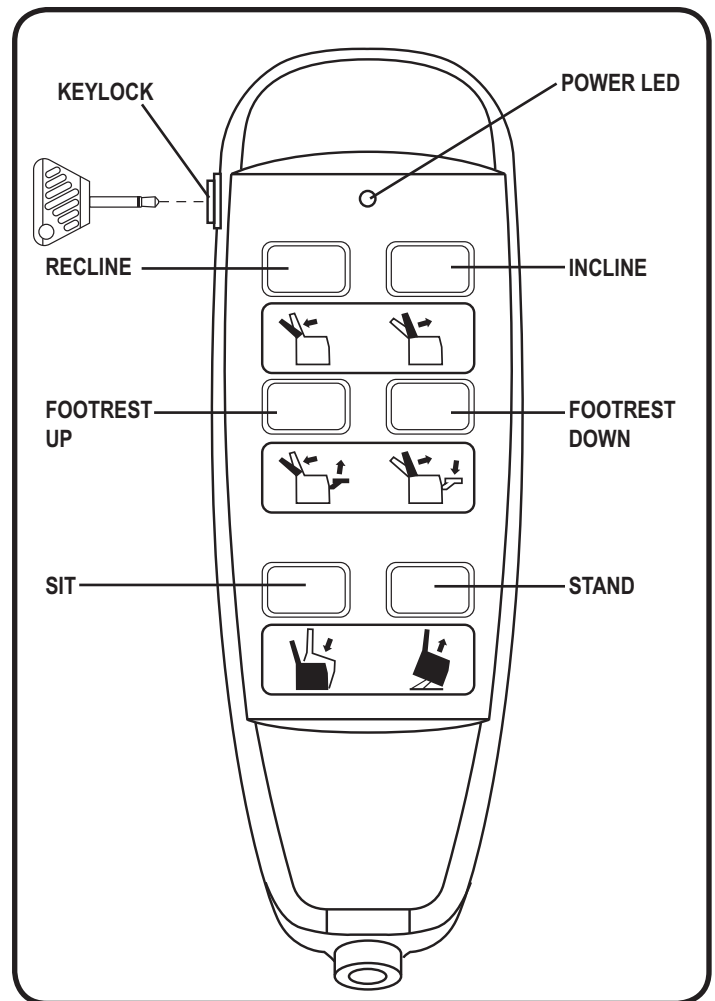

Figure 5.1 Hand Control
1. Press the FOOTREST UP button on the hand control until the footrest is sufficiently elevated from the ground (**Fig. 5.1**).
3. Press the FOOTREST DOWN button on the hand control until the power lift recliner is in an upright, seated position (**Fig. 5.1**).
5. Press the INCLINE button and elevate the power lift recliner to its highest position (**Fig. 5.1**). Plug the chair-back motor cable (labeled with a green-A tag) into the green-A slot of the controller box. Plug the chair base motor cable (labeled with a yellow-B tag) into the yellow-B slot of the controller box. The controller box is located underneath the power lift recliner.
6. Press the RECLINE button and return the chair to the upright, seated position before use (**Fig. 5.1**). Zip the chair-back fabric to the chair base.
The hand control is equipped with buttons that control the movement of the chair-back, chair base and footrest (**Fig. 5.1**).
Follow these steps to sit in your power lift recliner (Fig. 5.1):
Follow these steps to recline your power lift recliner from the seated position (Fig. 5.1):
Follow these steps to stand up from your power lift recliner (Fig. 5.1):
Follow these steps to raise or lower the footrest while in the seated or reclined position (Fig. 5.1):
Follow these steps to stand up from your power lift recliner from the seated position (Fig. 5.1):
Follow these steps to recline your power lift recliner to the “Trendelenburg” position (Fig. 5.1):
Follow these steps to recline your power lift recliner to the “zero gravity” position (Fig. 5.1):
Your hand control may be equipped with a keylock feature (**Fig 5.1**). The keylock feature is intended to disable the functions of the hand control to prevent unintended movement when the power lift recliner is occupied, but stationary, as well as when the power lift recliner is left unattended. The key should only be inserted into the hand control when the position of the power lift recliner needs to be adjusted by the user.
Follow these steps to operate the keylock (Fig. 5.1):